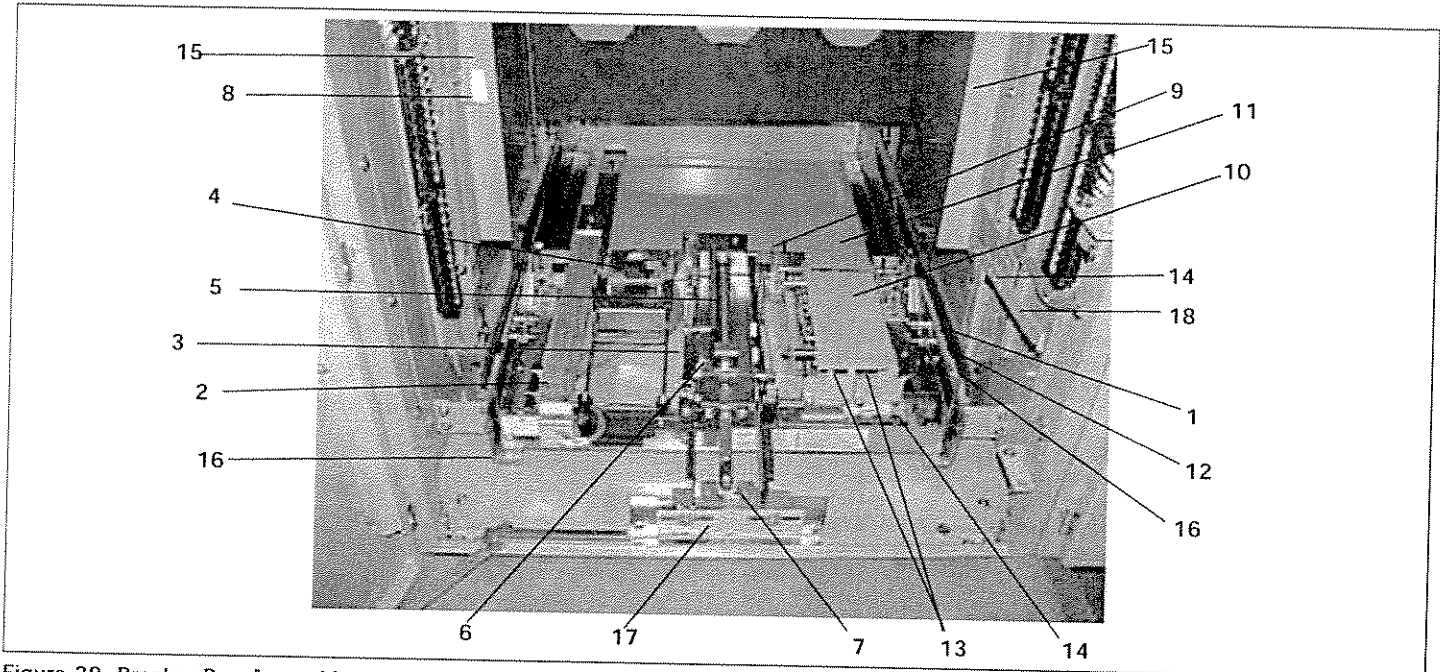

Figure 38. Breaker Pan Assembly.
11	Phosphorescent Connected Position Indicator (see Figure 38, item 8)
14	Levering Crank (See Figure 38 item 7)
The phosphorescent marker is only visible through the fixed window when the breaker is in the connected position and serves to indicate such (see Figure 38, Item 8).
Refer to Figure 38 to identify components of the breaker pan assembly.
Description of Figure 38 Balloons